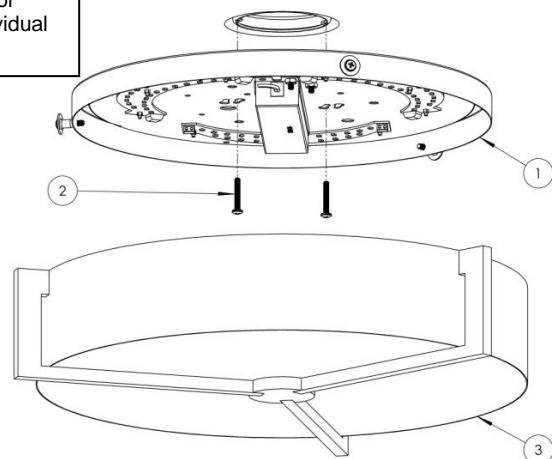
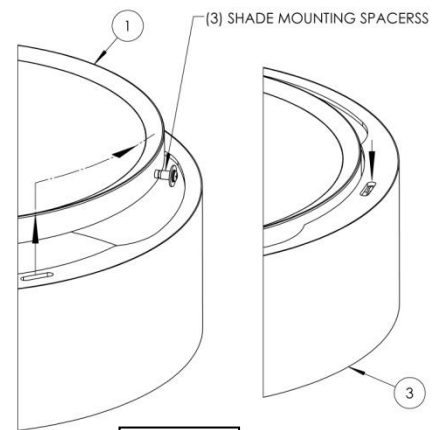

Figure 1
Figure 2
- Raise diffuser (3) up to the ceiling pan with large opening on the top past three support spacers per Figure 1. Then slowly rotate diffuser until three slots are aligned and engaged with the support spacers per Figure 2